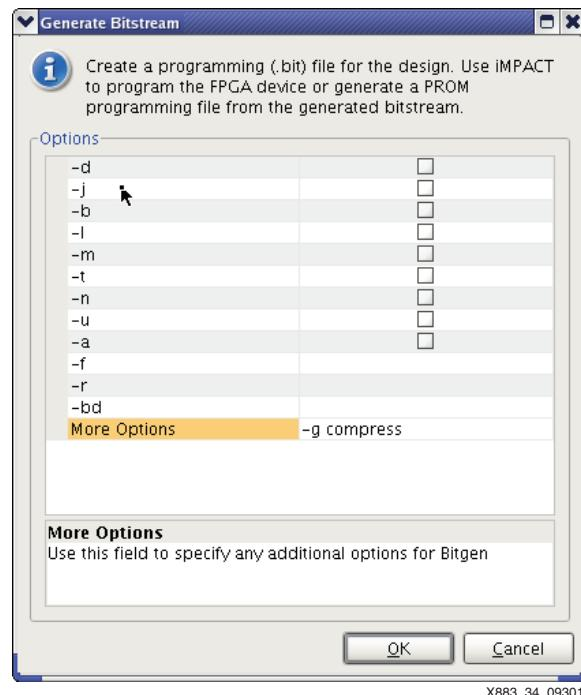

Figure 34: BitGen Option Selection Window
- Specify `-g compress` in the More Options field, as shown in Figure 34.